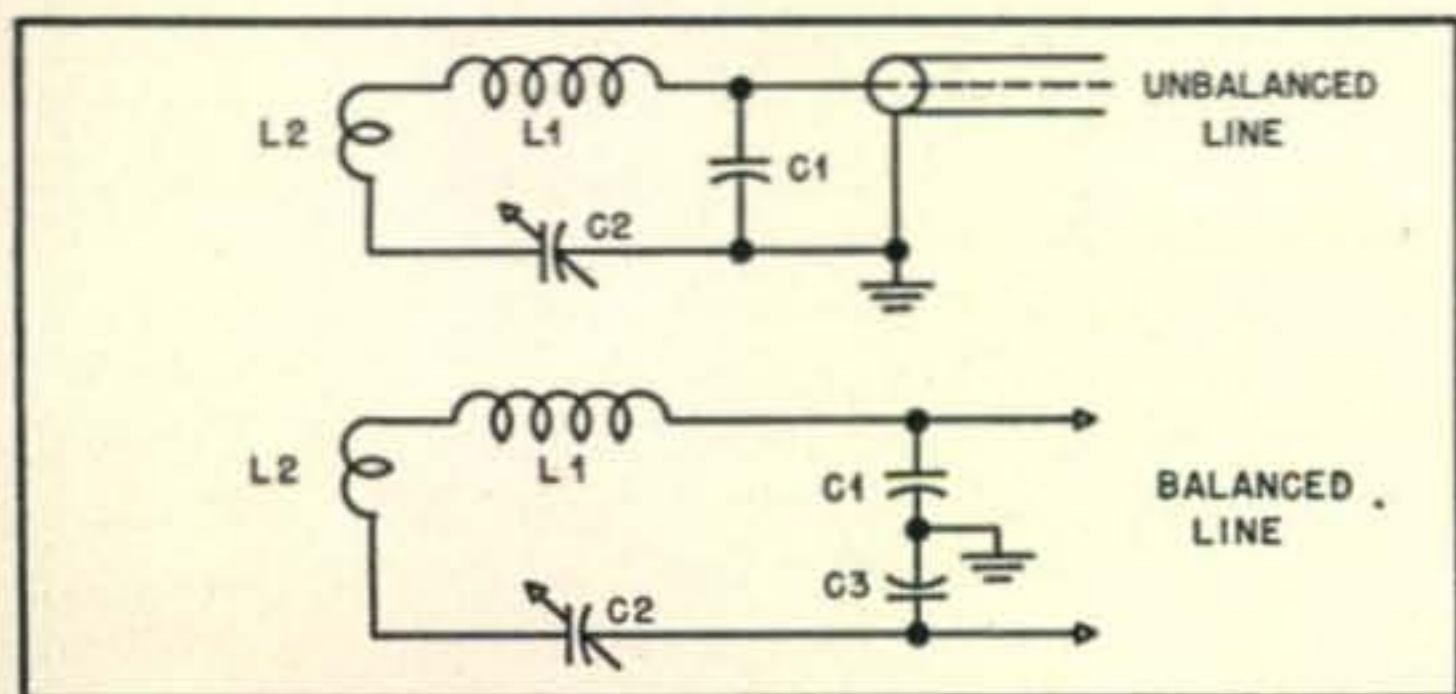

Fig. 2. Pi-coupling network desirable for harmonic attenuation in the link. See text.
2. Install a pi-coupling network as shown in Fig. 2. L_1 , L_2 , C_1 , C_2 plus any net transmission line reactance must resonate at the transmitter frequency. Reactance of C_1 (or the series reactance of the equal capacitors C_1 and C_3) at the fundamental operating frequency must equal that of the line impedance. Loading should be adjusted by varying the coupling of the link inductance L_2 . The entire coupler should preferably be shielded and the link line should be as short as possible. (Readers are referred to handbook data on pi-couplers for additional information).